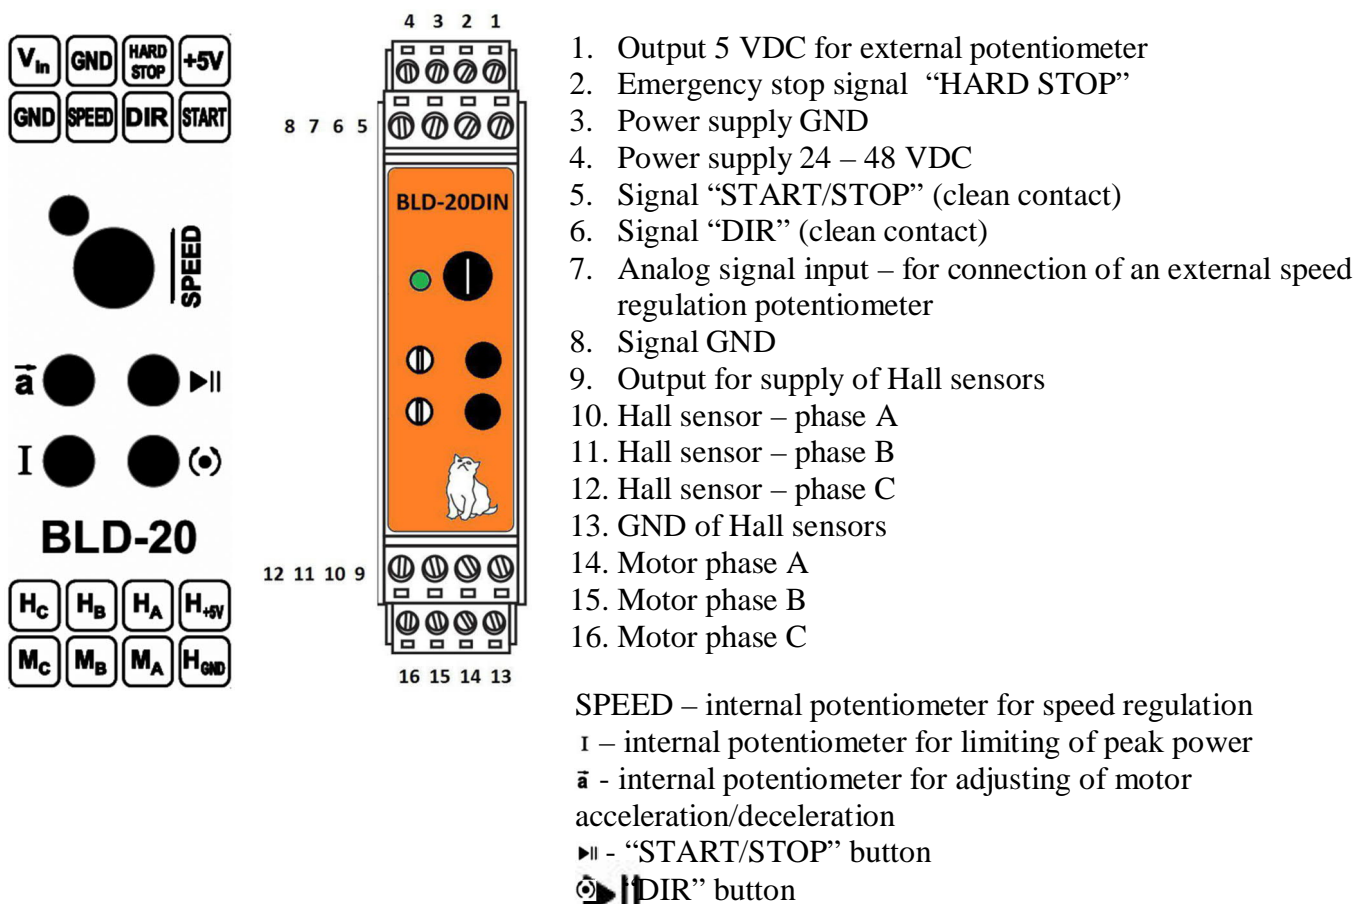

Fig. 2. Location of terminals and control elements
Connection scheme is shown on fig. 2
Location of terminals and control elements are shown on fig. 2.
1. Connect a motor to the controller according the fig. 2. Motor phases must be connected to terminals 14 – 16. Hall sensors signals must be connected to terminals 10 – 12. GND of HALL sensors must be connected to the terminal 13, supply of HALL sensors signals must be connected to terminal 9.
5. Set suitable to an application motor acceleration/deceleration by using of internal potentiometer (fig. 2). End CCW position of the potentiometer is related to the maximum acceleration time.
6. Set suitable to the motor limit of peak power (fig. 2). If the consumption peak power will be exceeded for 15  $\mu$ s, it will lead to emergency stop.